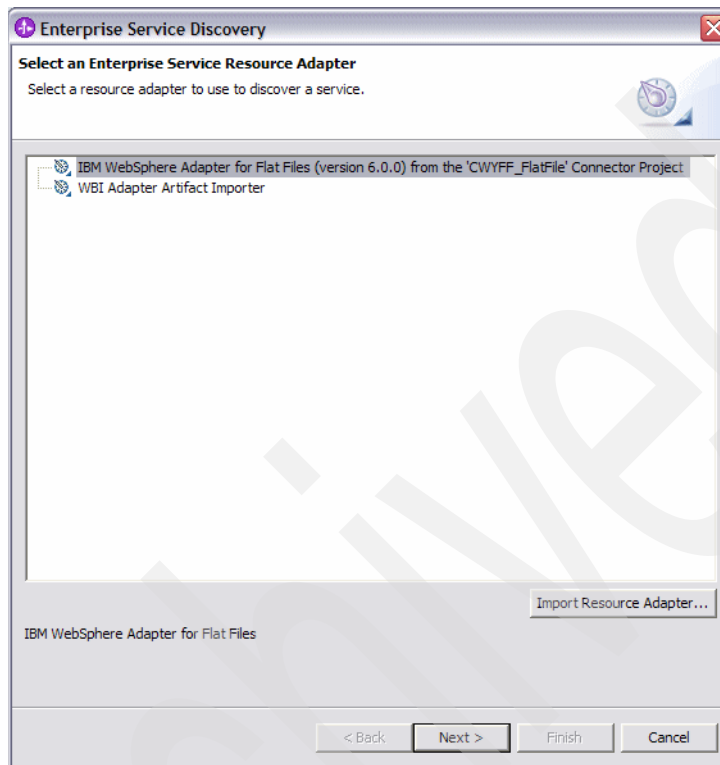

Figure 2-5 Select project
2. Select the Flat File Connector project (**CWYFF\_FlatFile**) and click **Next** (Figure 2-5).